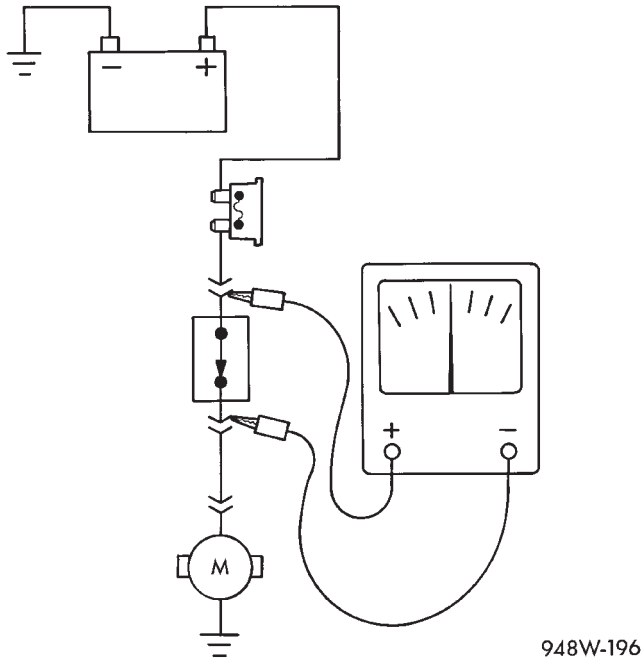

Fig. 10 Testing for Voltage Drop
(1) Connect the positive lead of the voltmeter to the side of the circuit closest to the battery (Fig. 10).
(2) Connect the other lead of the voltmeter to the other side of the switch or component.
(3) Operate the item.
(4) The voltmeter will show the difference in voltage between the two points.